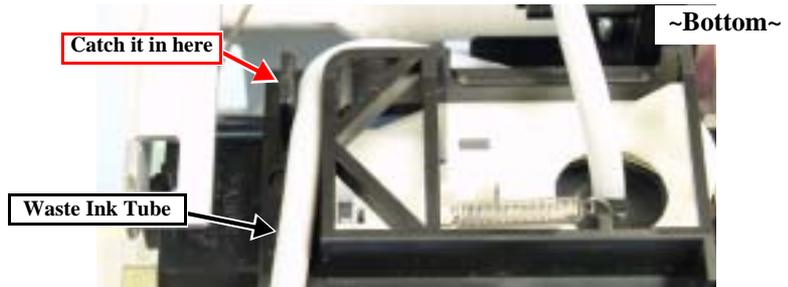

Figure 4-56. Installing the Waste Ink Tube (I/S Assy)
- Catch the Waste Ink Tube in the groove shown in the figure on the bottom of the I/S Assy. (Fig. 4-56)